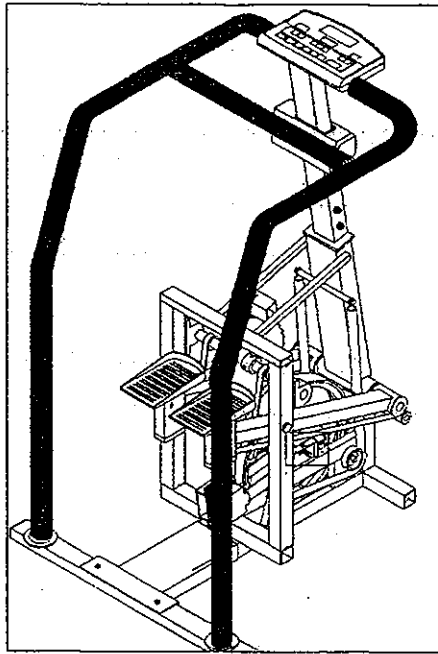

Fig. 10
1. Install the new optical switch with two screws. Make sure the space between the optical switch and the tachometer wheel is $0.04'' - 0.08''$ ($1\text{ mm} - 2\text{ mm}$), once it is properly aligned, turn the eddy current system's wheel by hand to make sure it turns freely. Then tighten the two screws (see Fig. 10 to 10-2).